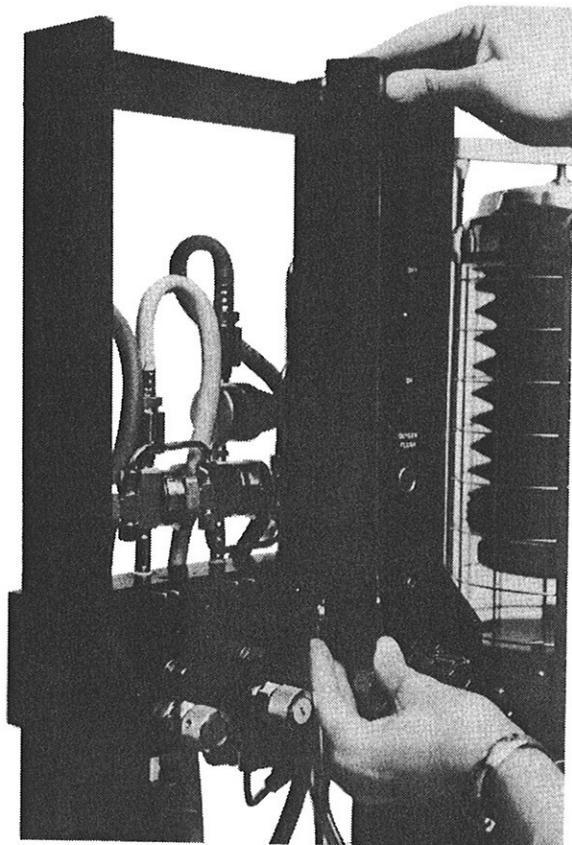

Figure 27.
5. Make sure that the plastic nipples and associated O-rings located at the lower back of the flowmeter module do not stick in the distribution manifold inlet or outlet. **NOTE:** Newer model machines have flowmeter modules with captive nipples. Before a replacement flowmeter module is fit in its location, make sure the manifold inlet and outlet are free from obstruction (see Figures 27 and 27A).